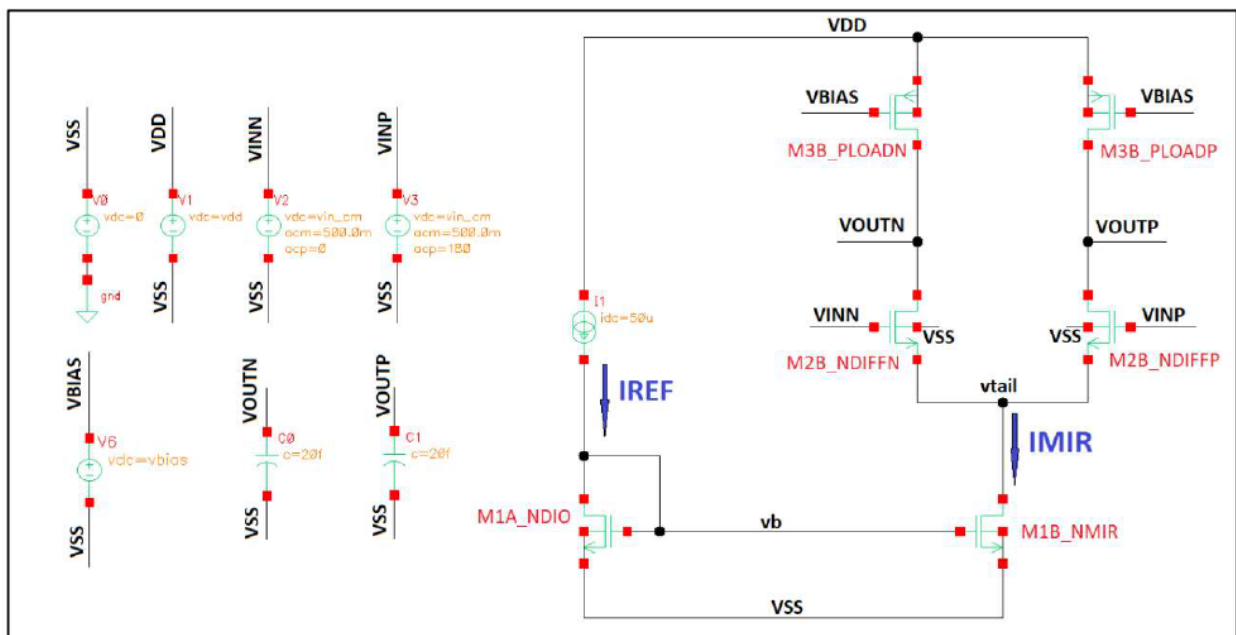

Figure 3. Schematic of differential amplifier with current source load
2.3. Instruction: Assemble the circuit as shown in **Figure 3**, setting parameters for power supplies (using **vdc** source), with $C_{load} = 20fF$, $v_{dd} = 1.0V$, $v_{bias} = 0.48V$, $v_{in_{cm}} = 0.8V$,
- Create the testbench as **Figure 3**, the input ac voltage VINP and VINN equal to 500mV and differential phase between two input signal is 180°.